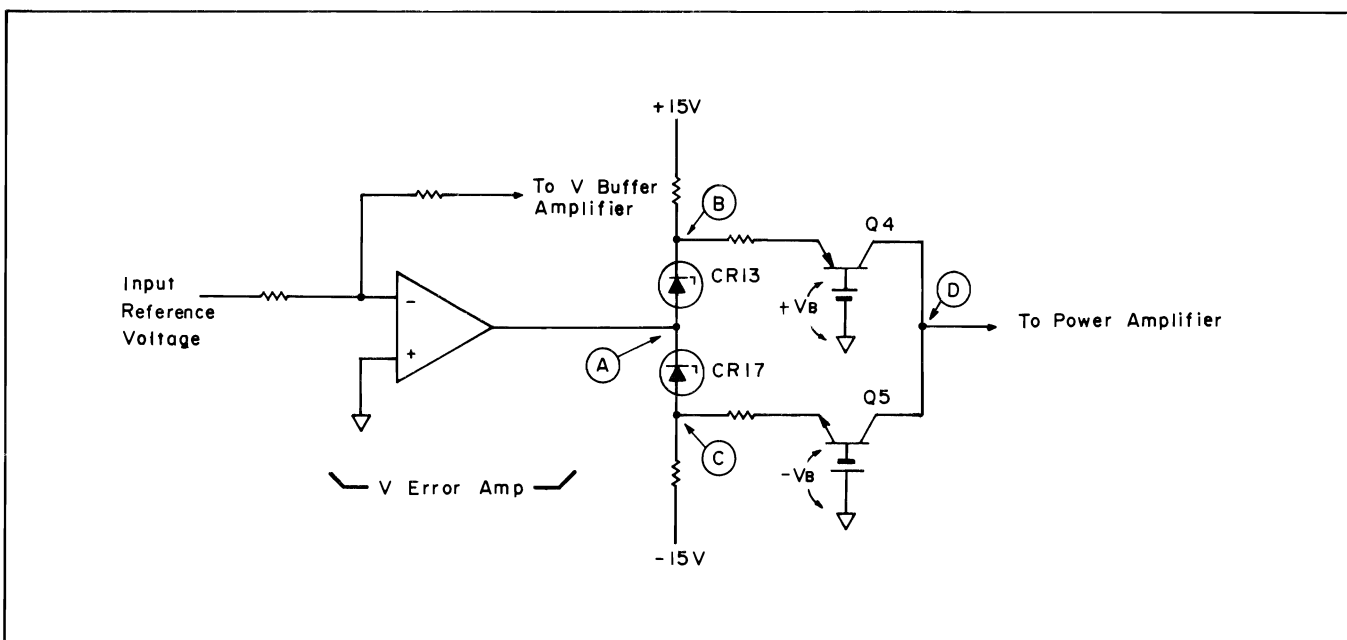

Figure 8-41. V Error Amplifier.
One of the three error amplifiers—U1, U2 and U3 in the actual schematic—controls the SMU output. Figure 8-41 shows the V error amplifier and a simplified drawing of its output circuitry. The voltage at point (A) in the figure changes according to the input reference voltage.